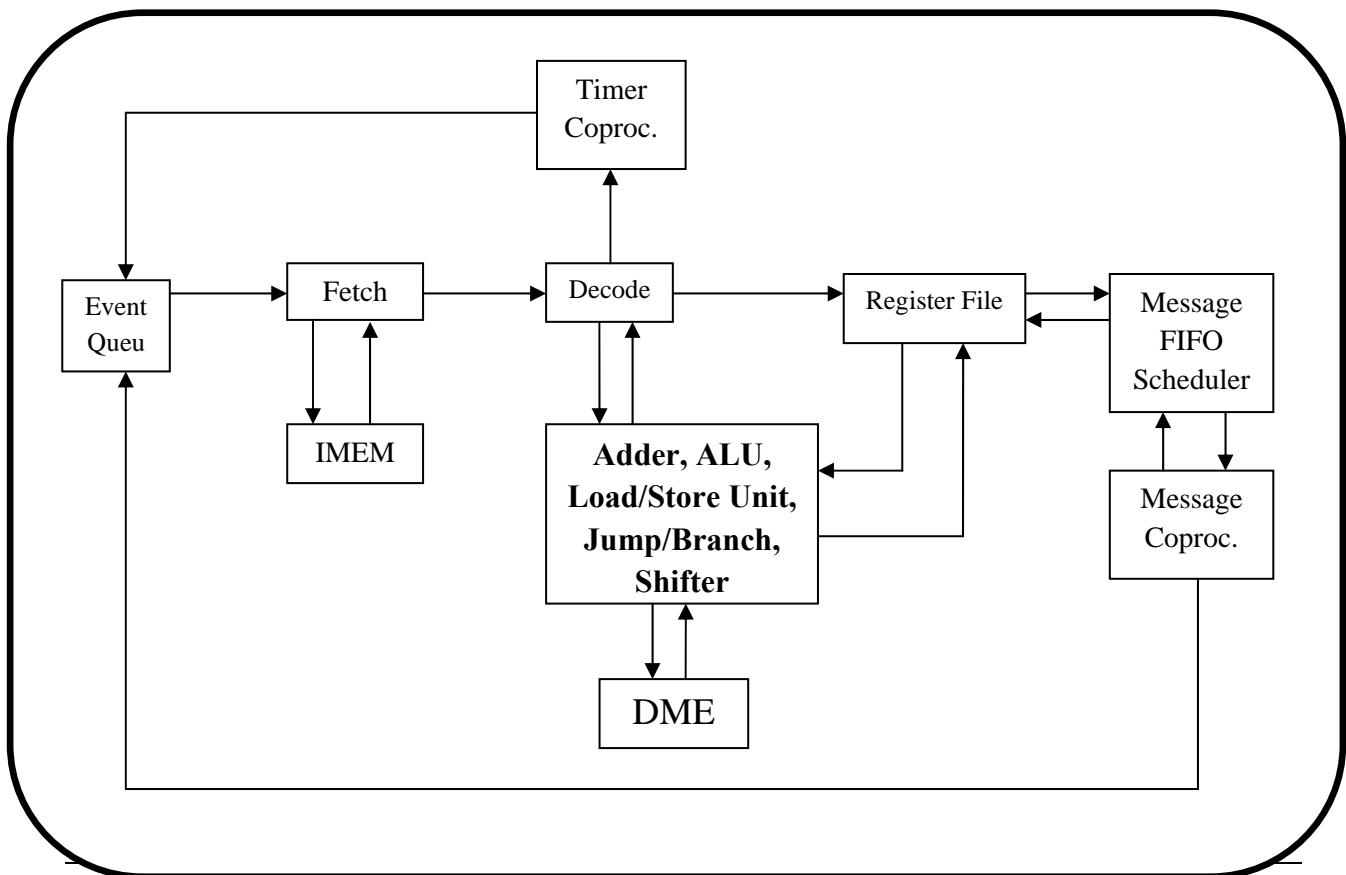

Figure 2.2 - Microarchitecture of SNAP/LE showing major units. [Virantha04]
**Simultaneous execution of several instructions is supported in SNAP/LE.** Its potential concurrency can be seen from its microarchitecture in Figure 2.2: the event queue stores outstanding events that are yet to be processed. These instruction tokens travel through the pipeline and are transformed by the computation blocks (adders, decoders, etc.).
As we can see from Figure 2.2, SNAP/LE CPU has the following hardware units: **an adder, a logic unit, load-store units, a timer unit for interfacing with the timer coprocessor, a jump/branch unit, a linear-feedback shift register (for pseudo-random number generation), and a shifter.** The most commonly-used units (such as the adder, the logic unit, the load-store, etc.) are placed on the fast busses and the rest on the slow busses. All of the function units were designed with minimal pipelining in order to limit SNAP/LE's power consumption while awake.